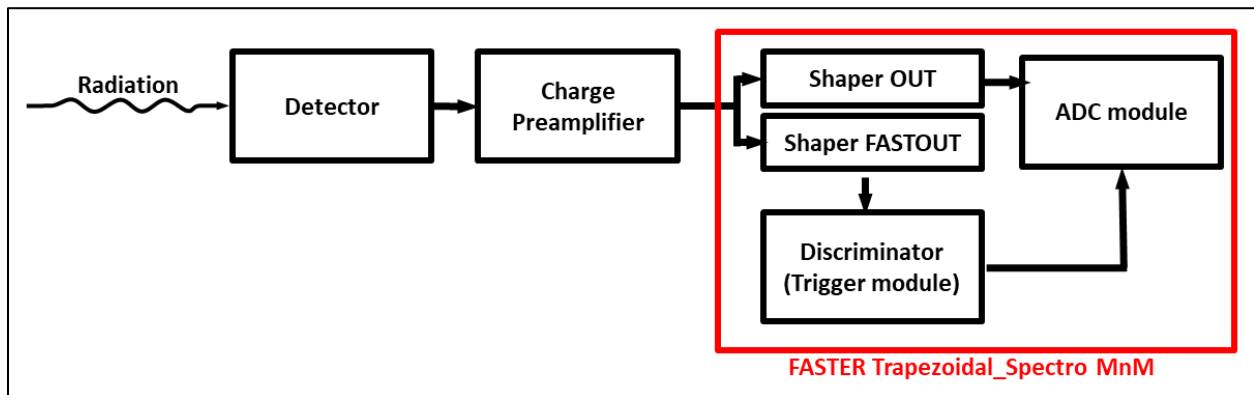

Figure 1: Instrumentation system for spectroscopy.
- The Spectro OUT signal: it is a trapezoidal or triangular signal whose characteristics are chosen to maximize the ratio Signal amplitude/Noise: the amplitude measurement of the Spectro OUT signal, thanks to the ADC module (cf. Figure 1), is proportional to the energy deposited per incident particle.